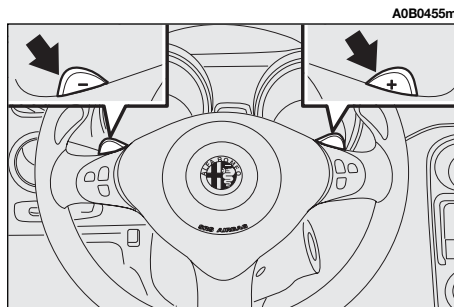

fig. 121
- the levers on the steering wheel (**fig. 121**), which can be used only when the vehicle speed exceeds 10 km/h.